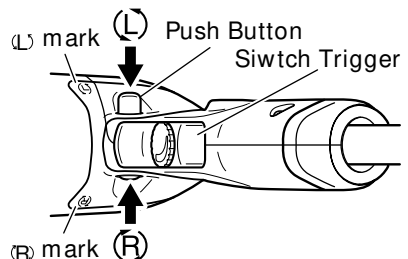

Fig. 5
8. Check the rotational direction (Fig. 5)